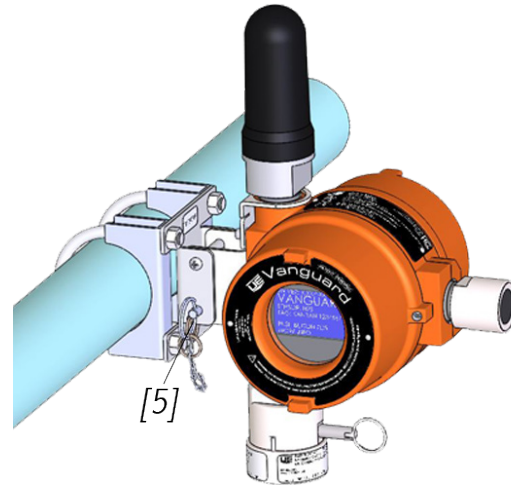

Figure 19
7. Push attached pin [5] through bottom holes to secure device to the bracket (see Figure 19).